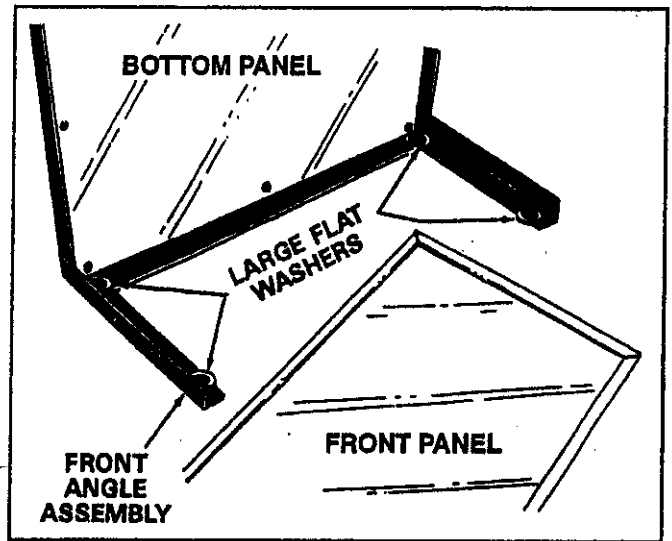

FIGURE 5
- Stand the cart on its front end with the front angle assembly on the floor. See figure 5.
- Temporarily place four large $1-1/2"$ flat washers (used on wheel axle) on the inside of front angle assembly. See figure 5.